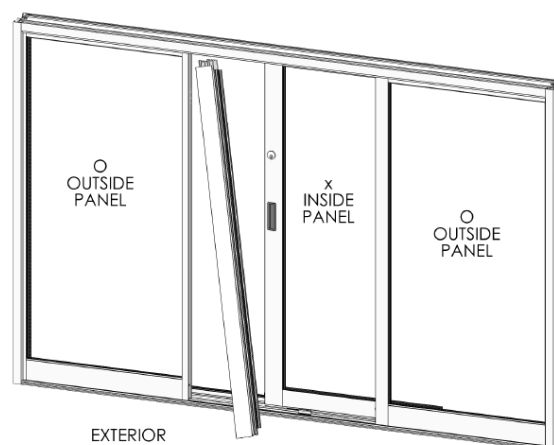

Figure 21:
2. Slide the left side fixed panel into the left side fixed jamb as far as possible. Install the false jamb at an angle until it rests against the left side fixed panel. Using a wood block and hammer, set the false jamb firmly into its place against the fixed panel (Figure 21).